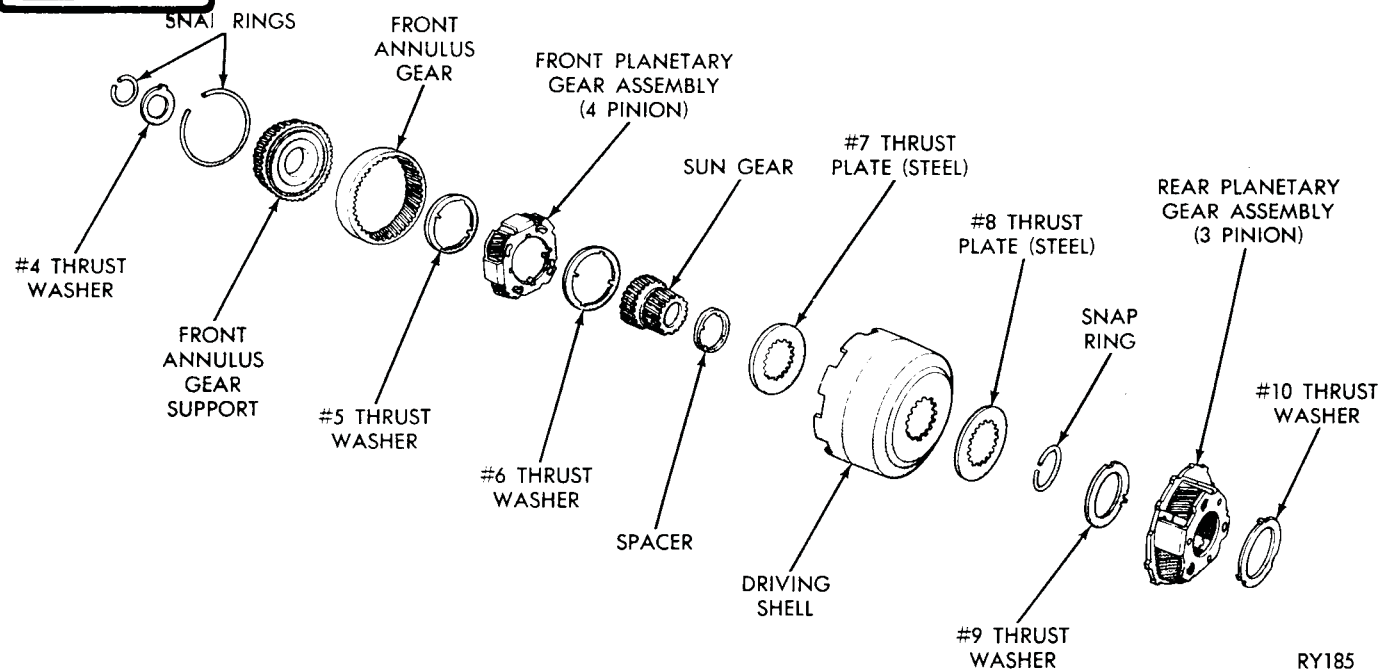

Fig. 33—Wide-Ratio Planetary Gear Train
Disassembly (Fig. 33)
(4) Slide sun gear, driving shell, and rear planetary assembly off the output shaft.
(5) Lift sun gear and driving shell off rear planetary assembly. Remove snap ring and #8 thrust plate from sun gear (rear side of driving shell). Slide sun gear out of driving shell, and remove spacer (Fig. 33), and #7 thrust plate from opposite end of sun gear, if necessary.
(6) Remove #9 thrust washer from forward side of rear planetary assembly and remove planetary gear assembly from rear annulus gear. Remove #10 thrust washer from rear side of planetary assembly. If necessary, remove snap ring from rear of annulus gear to separate support from annulus gear.
Refer to Figure 33 for parts reference.
(1) Place rear annulus gear support in annulus gear and install snap ring.
(2) Position #10 thrust washer on rear side of rear planetary gear assembly and install in rear annulus gear. Install #9 thrust washer on front side of rear planetary gear assembly.
(3) Insert output shaft in rear opening of rear annulus gear. Carefully work shaft through annulus gear support and planetary gear assembly. Make sure shaft splines are fully engaged in splines of annulus gear support.
(4) Install #7 thrust plate and spacer on wide-ratio transmissions (Fig. 33) on one end of sun gear. Insert sun gear through front side of driving shell, install #8 thrust plate and snap ring.
(5) Carefully slide driving shell and sun gear assembly on the output shaft, engaging sun gear teeth with rear planetary pinion teeth.
(6) Place front annulus gear support in the annulus gear and install snap ring.
(7) Position #5 thrust washer on front side of front planetary gear assembly. Position front planetary gear assembly in front annulus gear, place #4 thrust washer over planetary gear assembly hub and install snap ring. Position #6 thrust washer on rear side of planetary gear assembly.
(8) Carefully work front planetary and annulus gear assembly on output shaft, meshing planetary pinions with sun gear teeth.
(9) With all components properly positioned, install selective snap ring on front end of output shaft.